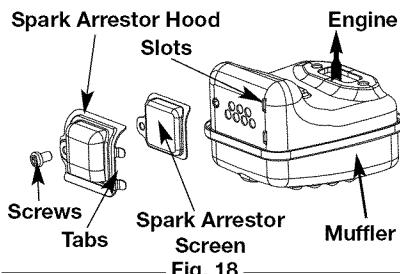

Fig. 18
2. Locate the muffler, **but do not remove it.** Find the screw on the bottom of the muffler (Fig. 18). This screw holds the Spark Arrestor Hood Assembly and the spark arrestor screen to the bottom of the muffler. Remove this screw using either a T₂₀ or flat blade screwdriver.
6. Place the spark arrestor hood on top of the spark arrestor plate with the "raised" side up and the opening facing AWAY from the engine (Fig. 18). Verify that the exhaust will be directed AWAY from the engine.